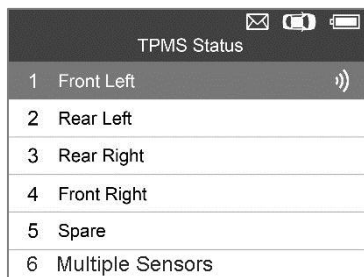

Figure 4-21 Sample Triggered Sensor Screen
1. From the activation screen, press the **TEST** button to trigger the original sensor. When the information is retrieved, a series of beep sound will be heard and the sensor information will display (Figure 4-21).